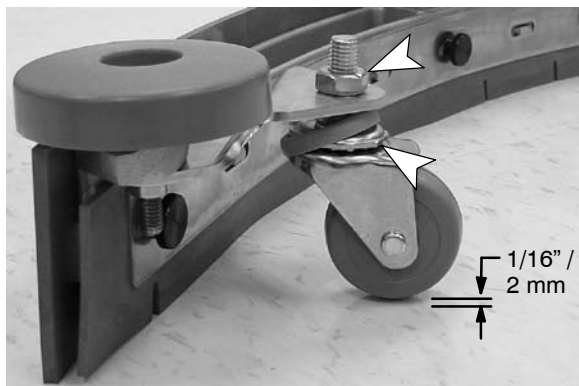

FIG. 39
1. To check the squeegee assembly for proper adjustment, remove the squeegee assembly from the machine and place it on a level surface. Measure the distance between the caster and the surface. It should measure approximately 1/16" / 2mm (Figure 39).
2. To adjust the caster height, loosen the top nut and remove the plastic bearing cover to access the adjustment nut. Turn the adjustment nut until properly adjusted (Figure 39). After adjusting, tighten the top nut and replace the plastic bearing cover. Repeat step for the other caster.